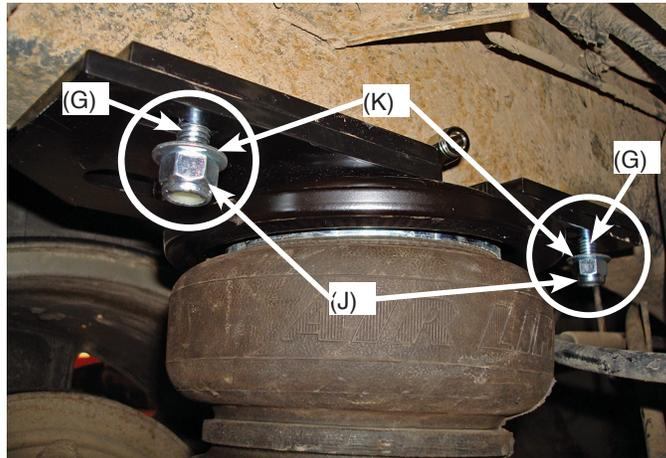

fig. 12
1. Set the assemblies onto the axle with the fittings to the inside of the frame (fig. 12). Align the upper Air Spring and Frame bracket (A) (that was previously installed) slots and attach using two 3/8-16 X 1.25" Carriage Bolts (G), two Flat Washers (K) and two Nylon Lock Nuts (J). Repeat for the opposite side and leave hardware loose at this time.